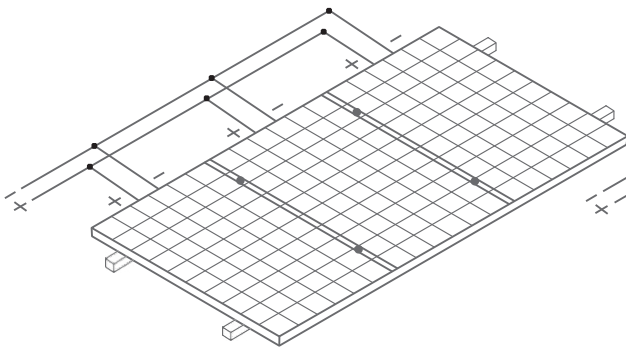

Figure 3
- When connected in series, the maximum number of the Modules are determined by the system design, inverter type and environment. (shown in Figure 3).